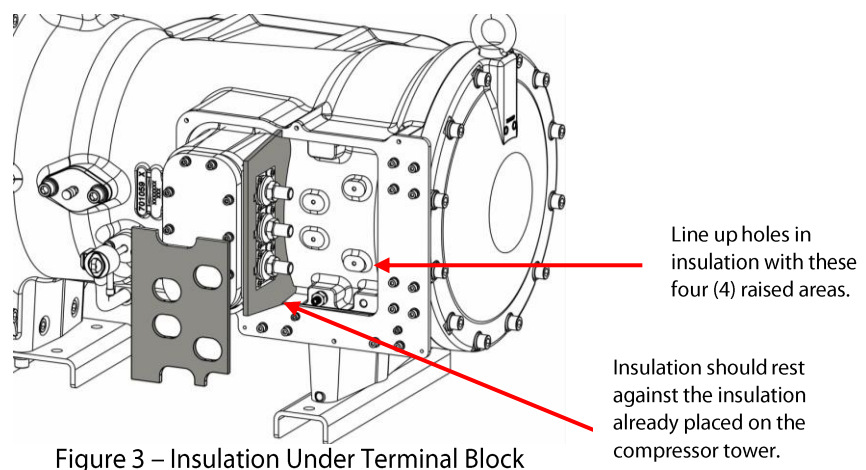

Figure 3 – Insulation Under Terminal Block
3. Peel the back of the Main Housing Insulation **(2)** that will be applied to the compressor underneath the Terminal Block Assembly. Then line it up with the four (4) cutouts and the raised areas on the compressor housing. Refer to Figure 3 – Insulation Under Terminal Block. When properly placed, the insulation should be against the insulation installed in the previous step.